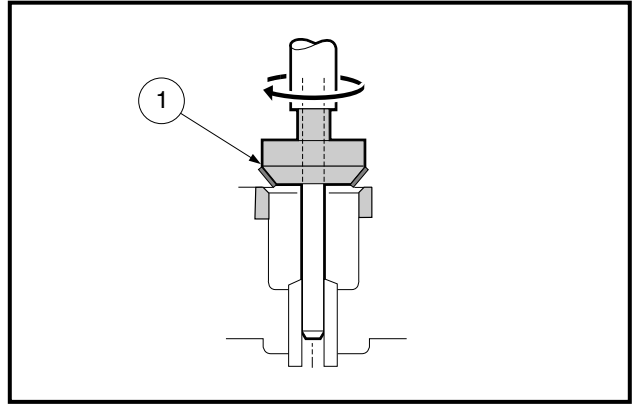

Figure 2-21 Resurface Valve Seat
2. Recondition the valve seats with a valve seat cutter (1) (45° x 32 mm exhaust seat CCI P/N 1016553, 45° x 35 mm intake seat CCI P/N 1016554) (**Figure 2-21, Page 2-13**).
- 2.4. Resurface the valve seats with 45° cutter (1) (32 mm exhaust seat), and (35 mm intake seat) cutters, removing only enough material to produce a smooth and concentric seat (**Figure 2-21, Page 2-13**). **See following CAUTION.**
- 2.5. Use a 30° x 35 mm seat cutter (1) (CCI P/N 1016554) to narrow the seat width to the standard width (**Figure 2-21, Page 2-13**). **See following CAUTION and NOTE.**